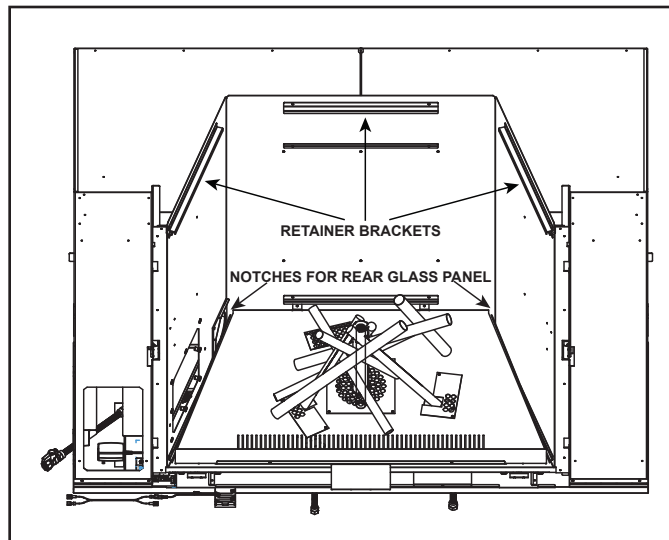

Figure 14.10 Remove Retainer Brackets
1. Remove rear and side glass retainer brackets as shown in Figure 14.10. Retain fasteners for use in Steps 3-5.